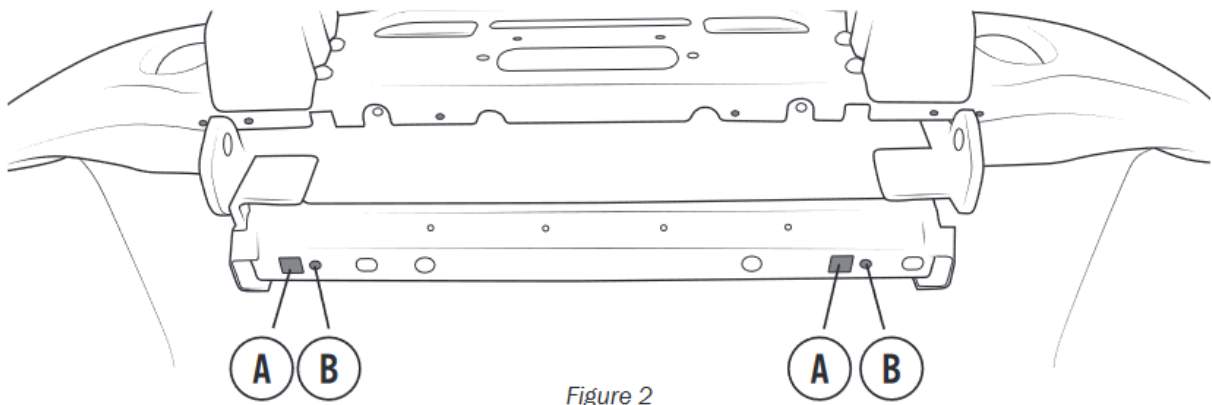

Figure 2
2. Inspect your vehicles compatibility beam (Fig 2). Depending on the model year of your vehicle, your compatibility beam may have the square cut-outs (A), have only the round bolt holes (B), or no attachment holes at all. If NO holes are present skip to step #4